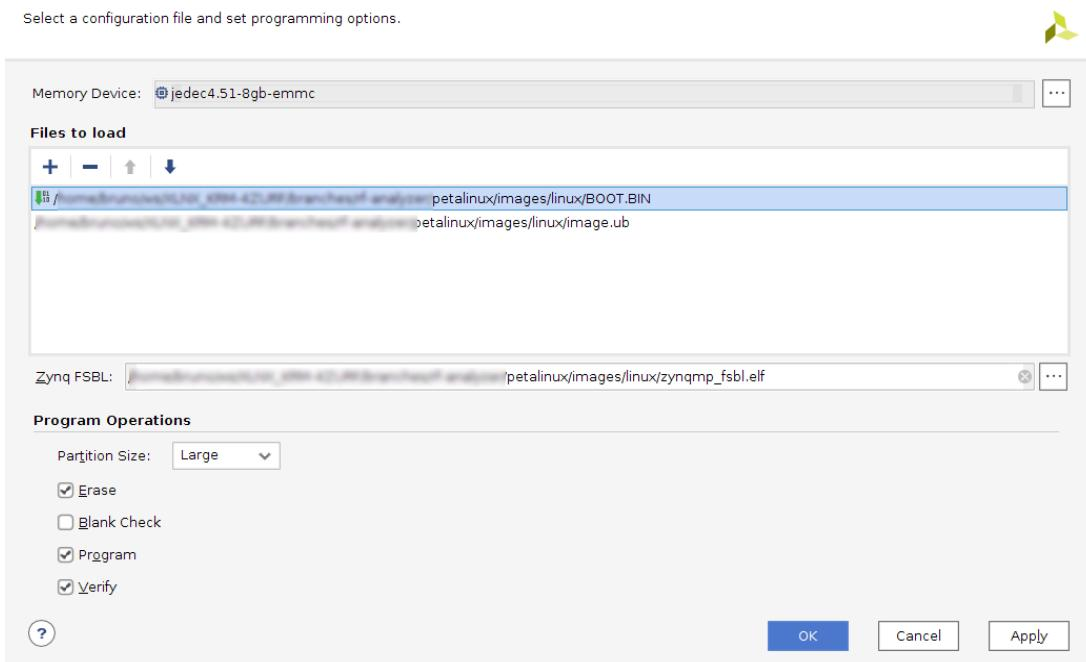

Figure 30. Program Configuration Memory Device
5. Add the files to be programmed using a Large Partition Size, as represented on Figure 30. The files *BOOT.BIN*, *image.ub* and *zynqmp\_fsbl.elf* were previously generated by PetaLinux.